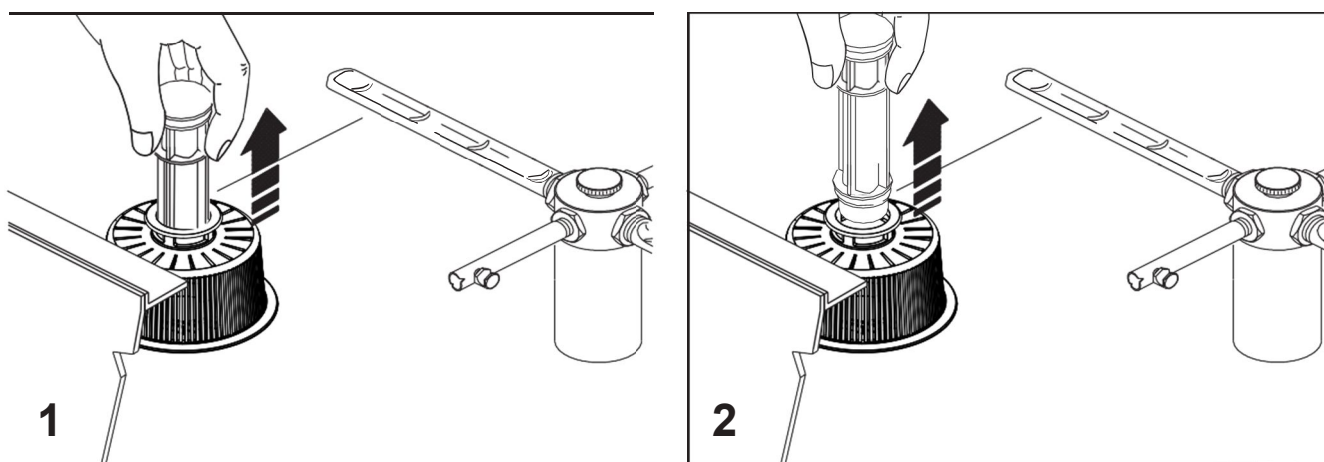

Fig. 16
2. remove the overflow pipe (fig. 16)